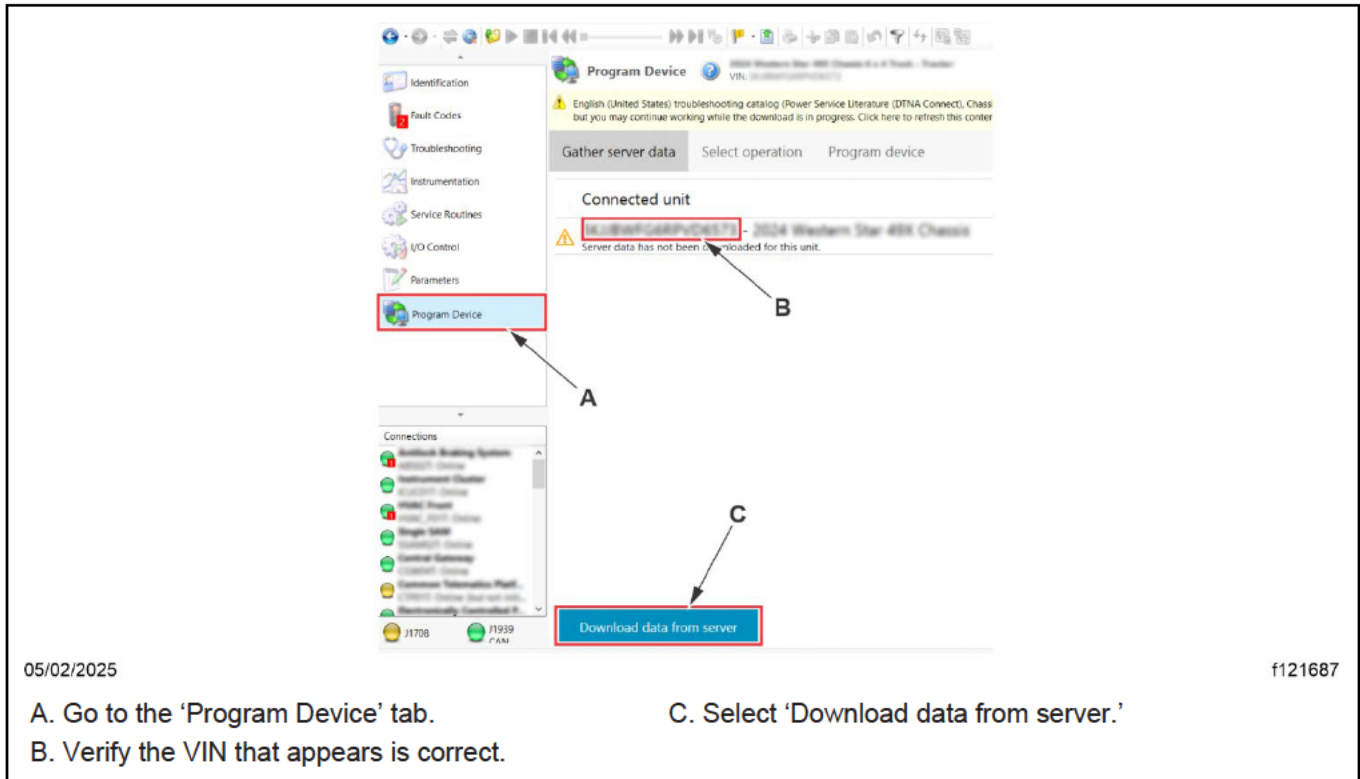

Fig. 5, Downloading the Data from the Server
12. Make sure that the Vehicle Identification Number (VIN) that appears is correct. Select 'Download data from server.' See Fig. 5.